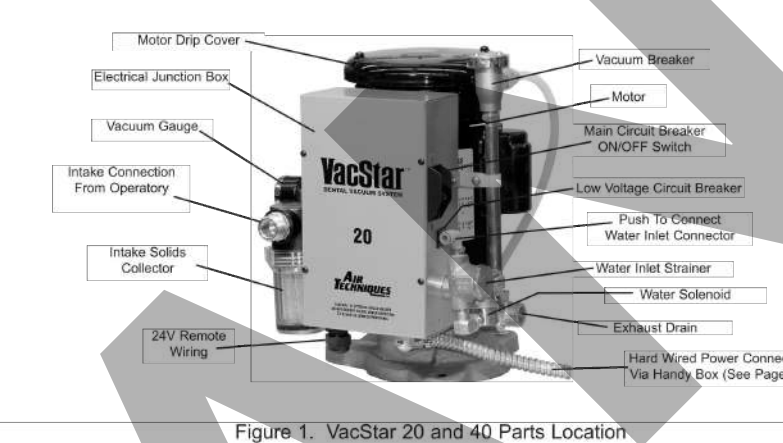

Figure 1: VacStar 20 and 40 Parts Location
- Water connection location is shown in Fig. 1 and 2a (water inlet connection).
- For VacStar 20 and 40, suction hose is connected at suction intake, found on intake solids collector assembly. See Fig. 1.